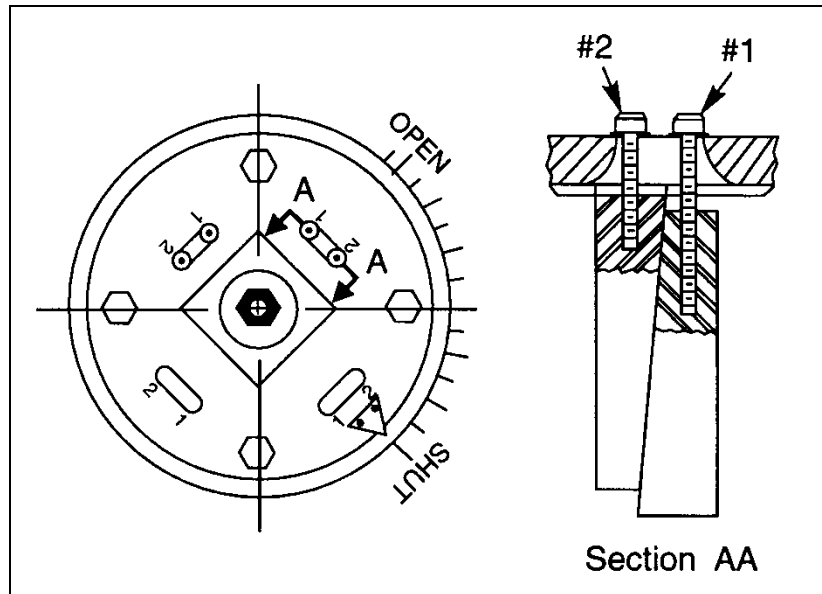

Figure 2 - Actuator Lockscrews
1. Loosen the two sets of lockscrews #1 and #2 on the top of the actuator as shown in Figure 2. Loosen lockscrews #1 about 6 to 8 turns; loosen lockscrews #2 about 3 turns. Tap both lockscrews #1 with a soft hammer to loosen the keys.
6. Refer to Figure 2. Tighten the two lockscrews #2; then tighten the two lockscrews #1 to secure the keys in position.
1. Scribe inner and outer extensions as shown in Figure 2 with the scribe marks at least 4" long.